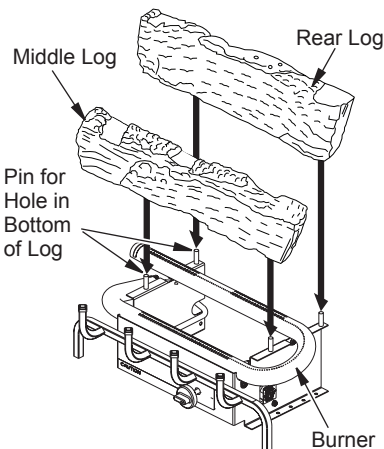

Figure 17 - Installing Rear and Middle Logs
1. Place rear log onto base. Holes in bottom of log must seat over pins on base as shown in Figure 17.
2. Place middle log onto base. Holes in bottom of log must seat over pins on base as shown in Figure 17.